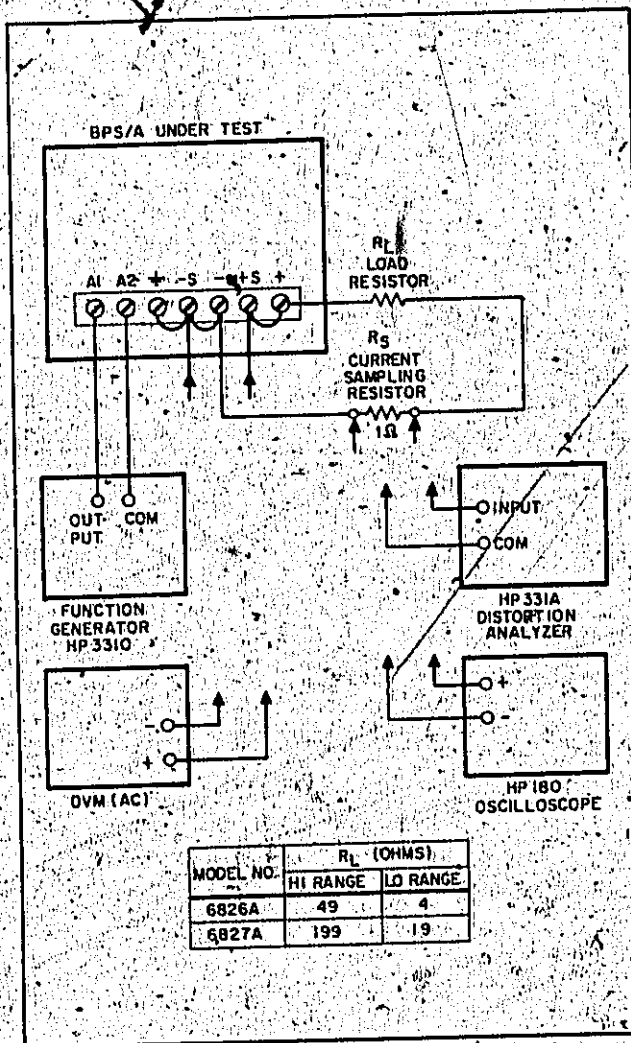

Figure 5-16. Amplifier Mode Test Setup
- Connect the test setup as shown in Figure 5-16. Use the appropriate low range load resistor (R_L).
- Connect the test setup as shown in Figure 5-16.